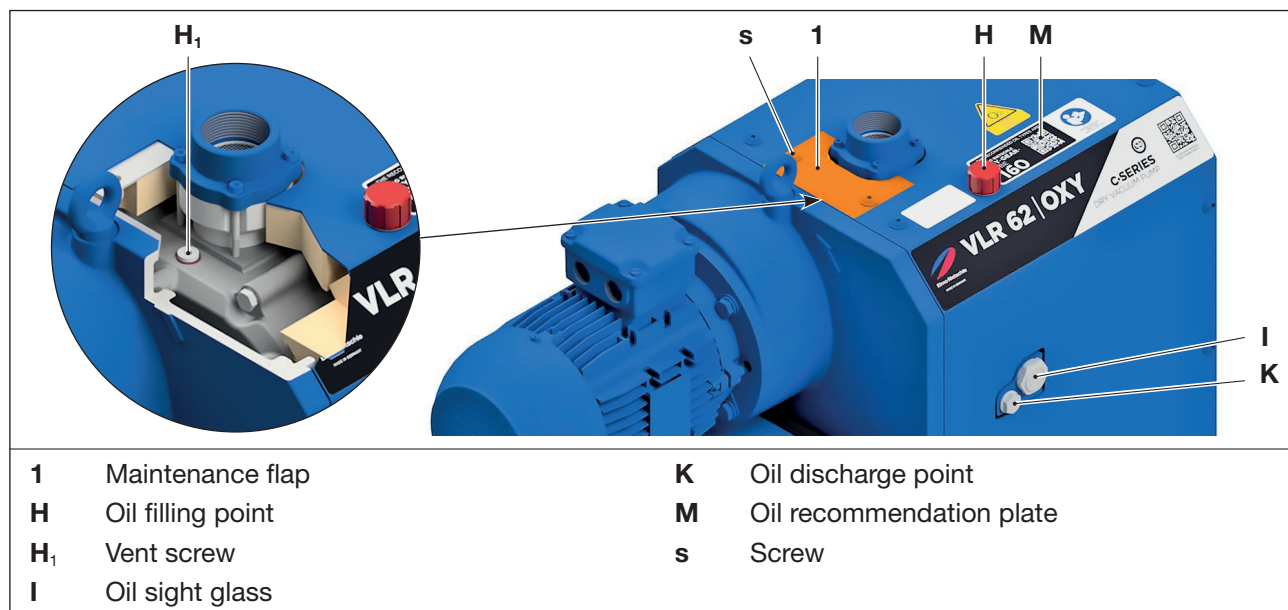

Fig. 5 Oil change
The machine is allowed to be operated only with the following operating agents (Elmo Rietschle oil), see oil recommendation sign (Fig. 5/M) as well as Tab. 3 „Oils“ on page 30:
Check the oil level in the sight glasses (Fig. 5/l) every month.
- Remove two screws (Fig. 5/s) on the maintenance flap (Fig. 5/1) and remove the maintenance flap.
- Open the vent screw (Fig. 5/H₁).
- Open the cap of the oil filling point (Fig. 5/H) and refill oil until it reaches the upper edge of the sight glass (Fig. 5/l).
- Open the vent screw (Fig. 5/H₁), open the oil discharge point (Fig. 5/K) and completely discharge the used oil.
- Close the oil discharge point (Fig. 5/K) and fill in new oil through the oil filling point (Fig. 5/H). Check the oil level in the sight glasses (Fig. 5/I).